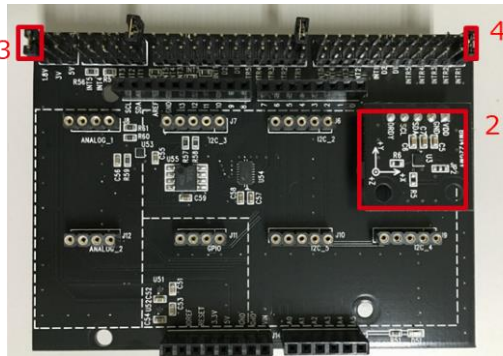

Figure 3. Connection between BM1422AGMV-EVK-001 and the SensorShield
2. Connect BM1422AGMV-EVK-001 to the socket of I2C\_1 on the SensorShield (Figure 3)
- Set Voltage of the SensorShield to 1.8V or 3.0V (Figure 3)
- Set Interrupt of the SensorShield to INTR1 (Figure 3)